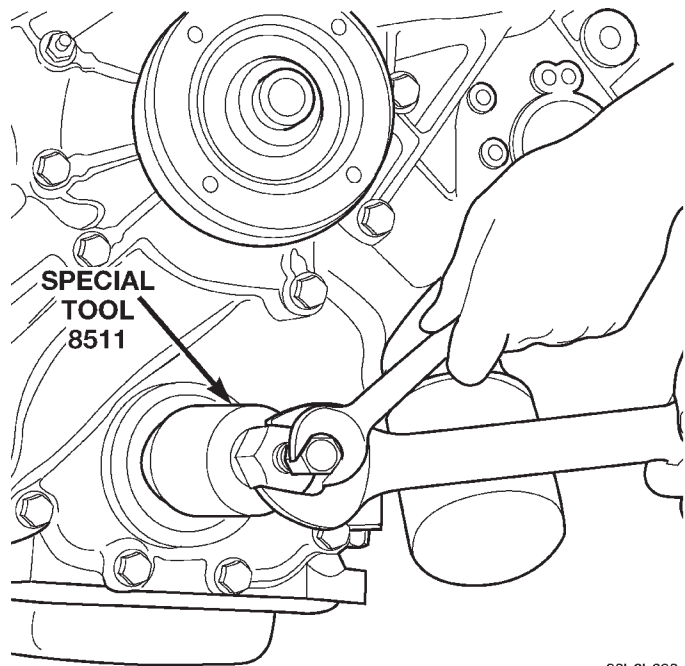

Fig. 109 Crankshaft Front Seal—Removal
(13) Using Special Tool 8511, remove crankshaft front seal (Fig. 109).